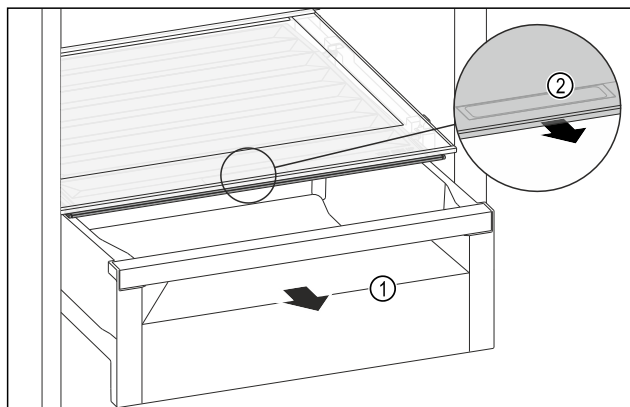

Fig. 220
- Pull out the drawer Fig. 220 (1).
- Grasp the recessed grip Fig. 220 (2) on the compartment lid and pull the compartment lid forwards at the same time.